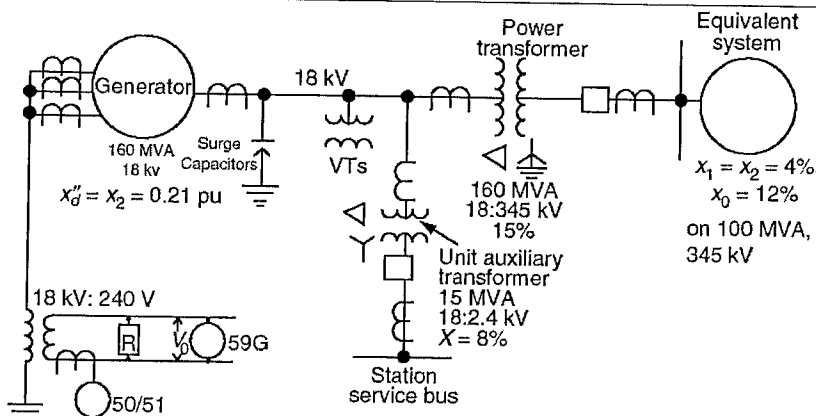

Fig. 1 System for problem 1.b
- b) The unit generator shown in Fig. 1 has a capacitance-to-ground of value 0.2885 microfarads per phase and the ground resistor R has a 64.14 kW rating at 138 V.